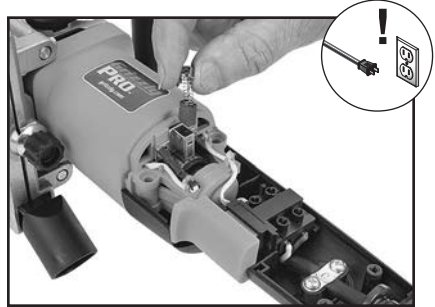

Figure 29. Replacing motor brush (1 of 2).
3. Locate and remove (2) motor brushes (see **Figure 29**).